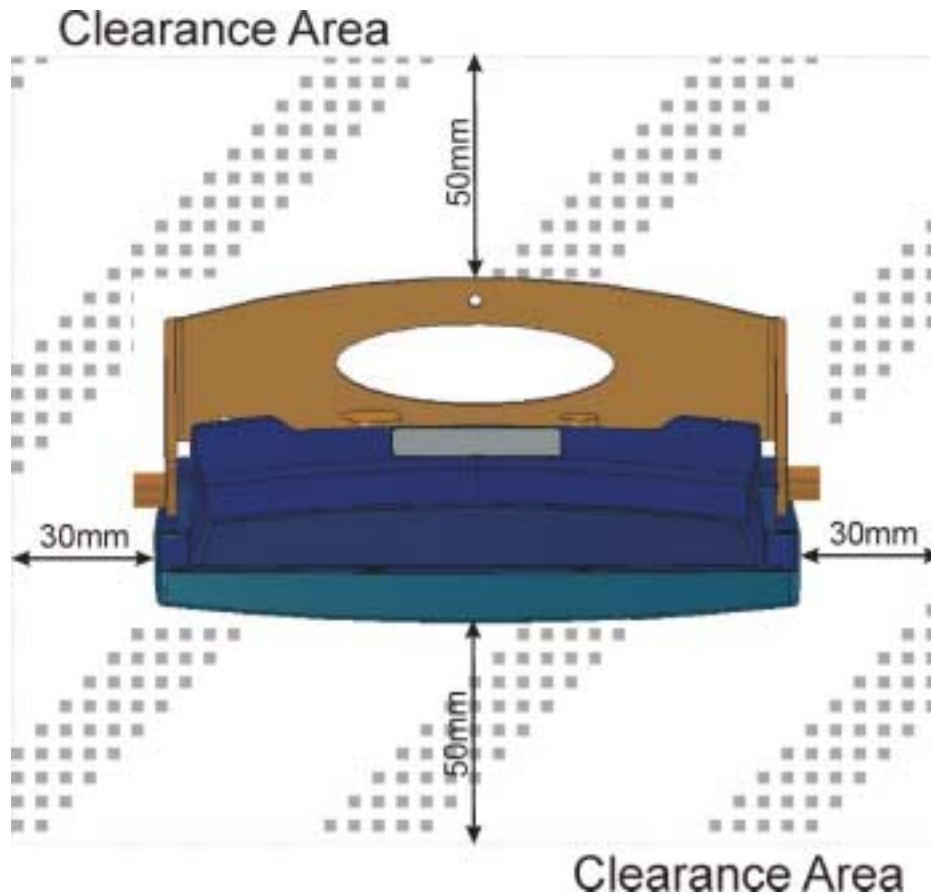

Figure 10: Clearance distance
- 1) Determine where to install the R4 Display. The R4 Display can be mounted horizontally or vertically. Make sure there is enough space around the R4 Display, see Figure 10.